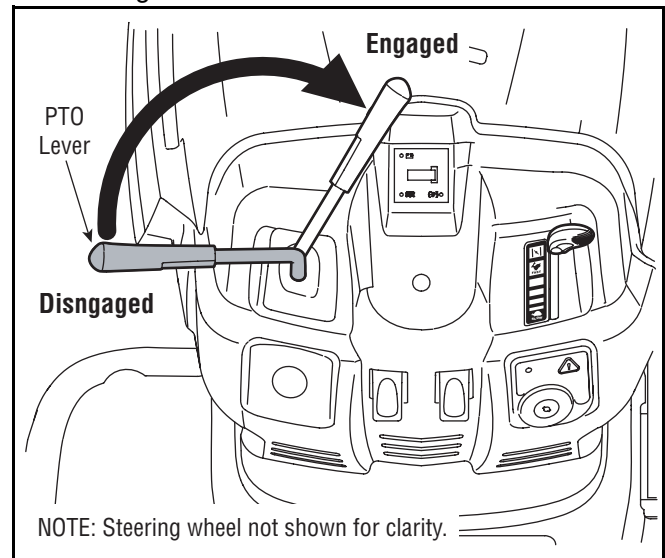

Figure 11
2. Grasp the PTO (Blade Engage) lever and pivot it all the way forward into the engaged (ON) position. See Figure 11.